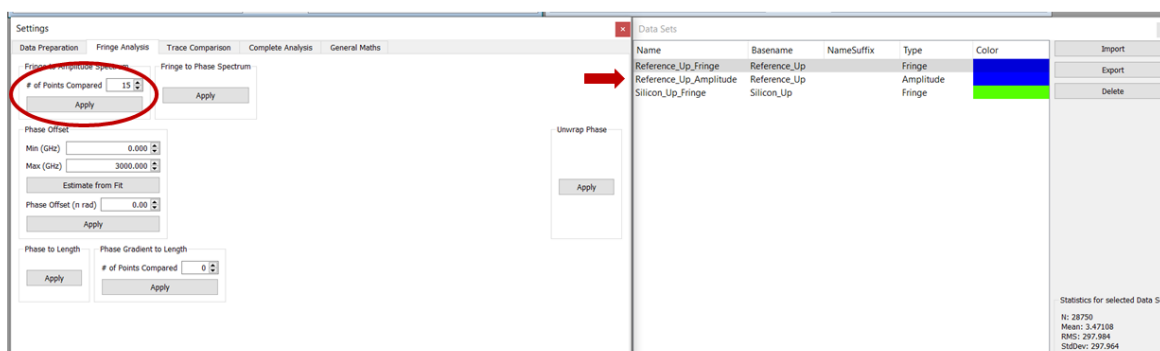

Fig. 7: Generating an amplitude spectrum from “fringe” data.
3. Click on the *reference* measurement in the Data Selection Window. Select the Fringe Analysis tab in the Settings + Analysis Window. Enter the (approximate) number of data points in a fringe halfwave (i.e., number of frequency steps between a phase minimum and maximum) in the input field **# of Points Compared**. Clicking **Apply** then generates a dataset that contains the envelope spectrum of the reference measurement. The new dataset is of type “Amplitude” (Fig. 7).